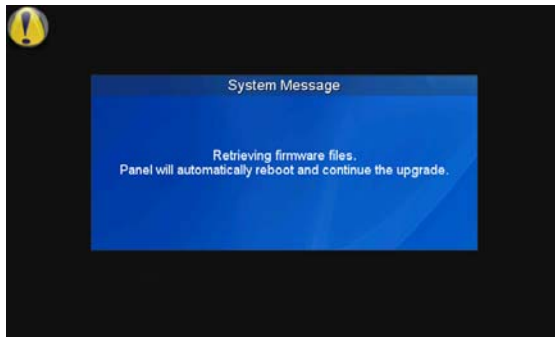

FIG. 119 Factory Firmware Reset system message
5. If you choose **Yes**, the device will retrieve the files and then reboot (FIG. 119).